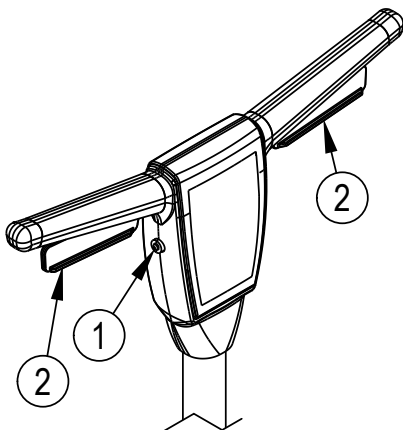

Figure 6
5. Push the interlock button (1), and apply pressure to the levers (2). To stop the machine, release the levers (2) (see *Figure 6*).
3. Push the interlock button (1), and apply pressure to the levers (2). To stop the machine, release the levers (2) (see *Figure 6*).